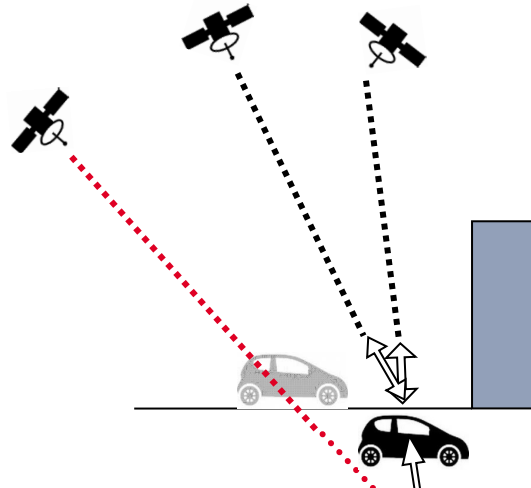

Figure 2: Position calculated by GPS receiver, the arrows indicate the minimized deviation errors
- Find the set of satellites, which matches best the altitude of the pressure sensor by calculating the position for each combination of satellites. Multi-path signals are thus suppressed, since they would have pushed the calculated position underneath the true position, see Figure 2.
1. Calculate position based on all satellites available, see Figure 2.